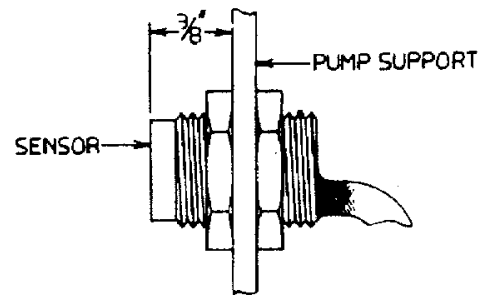

Figure 3
- F. Remove sensors from mounting bracket and install in pump support. Allow approximately 3/8 inch (9.525 mm) for sensor to extend from pump support (see Figure 3).
- J. Push each button to test for dispense. If unit does not dispense, sensor may need to be extended more from unit (see Figure 3).